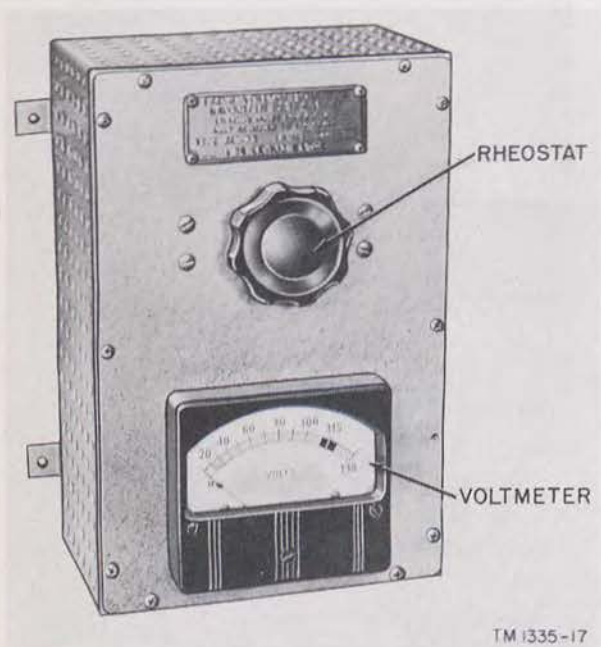

Figure 9. Voltage regulator.
d. *Voltage Regulator* (fig. 9). This unit contains a rheostat to vary the output voltage of the motor generator and a voltmeter to measure the output voltage. The leads from the voltage regulator are connected to the motor generator through the terminal board on top of the motor generator. Voltage Regulator CN-192/SPN-11X is for use with a supply voltage of 115 volts dc; Voltage Regulator CN-193/SPN-11Y is for use with a supply voltage of 32 volts; Voltage Regulator CN-194/SPN-11Z is for use with a supply voltage of 24 volts.